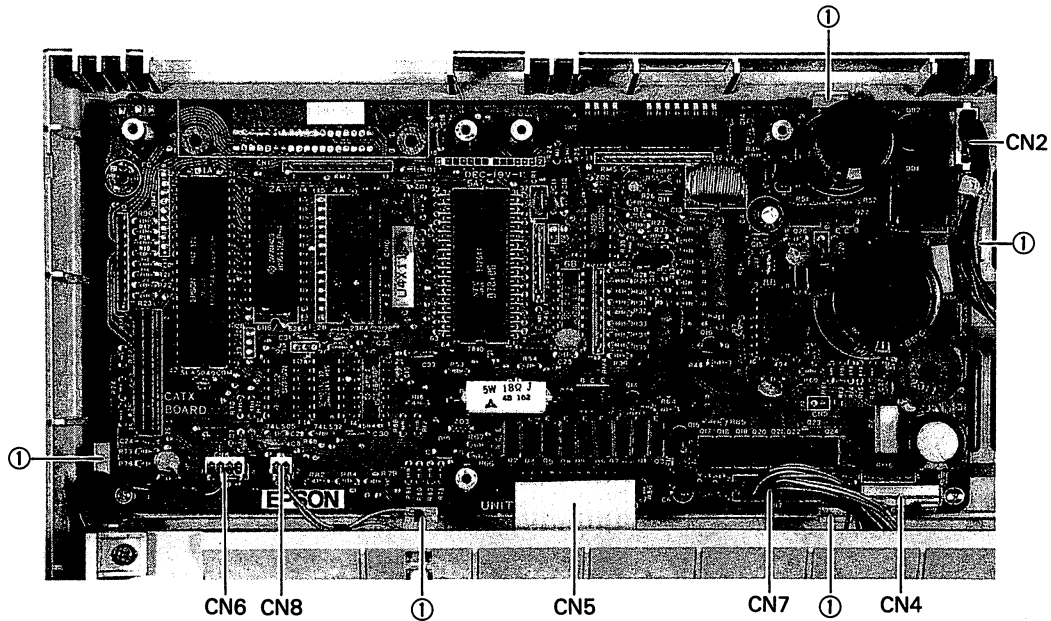

Fig. 4-3. CATX Circuit Board Removal
4.2.3 CATX Circuit Board Remove (Fig. 4-3)